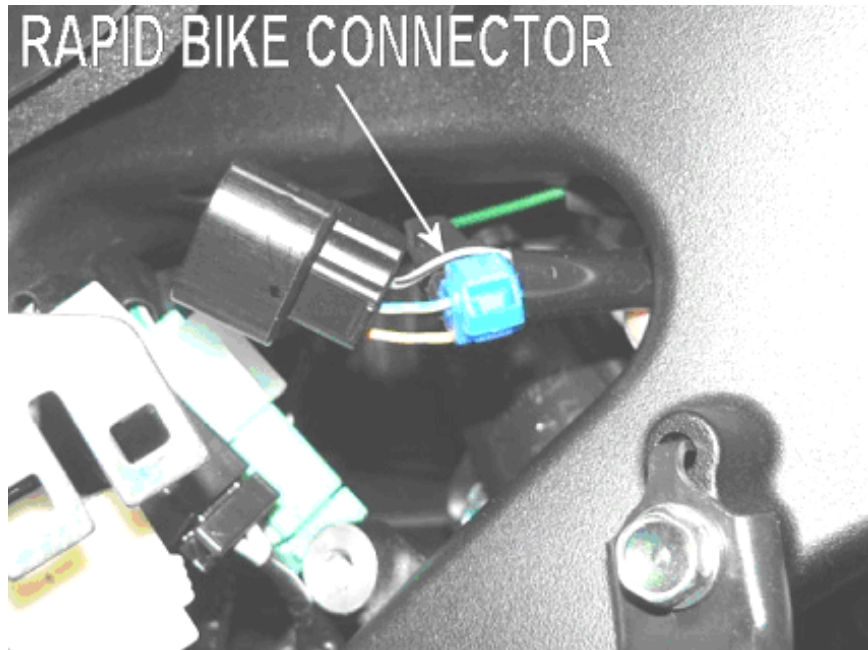

Fig.9.
11. Connect the green wire from the Rapid Bike wiring to the blue/yellow wire of the T.P.S. connector placed in central position using the supplied wire tap (Fig.9).